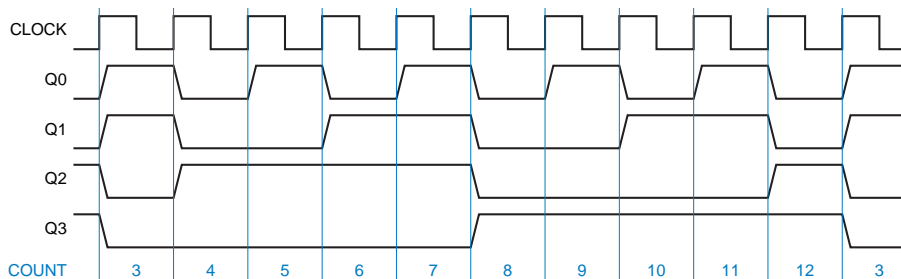

Figure 31: Timing waveforms for the '163 used as an excess-3 decimal counter.
- In Fig. 31, Q3 output has a 50% duty cycle, which may be desirable for some applications